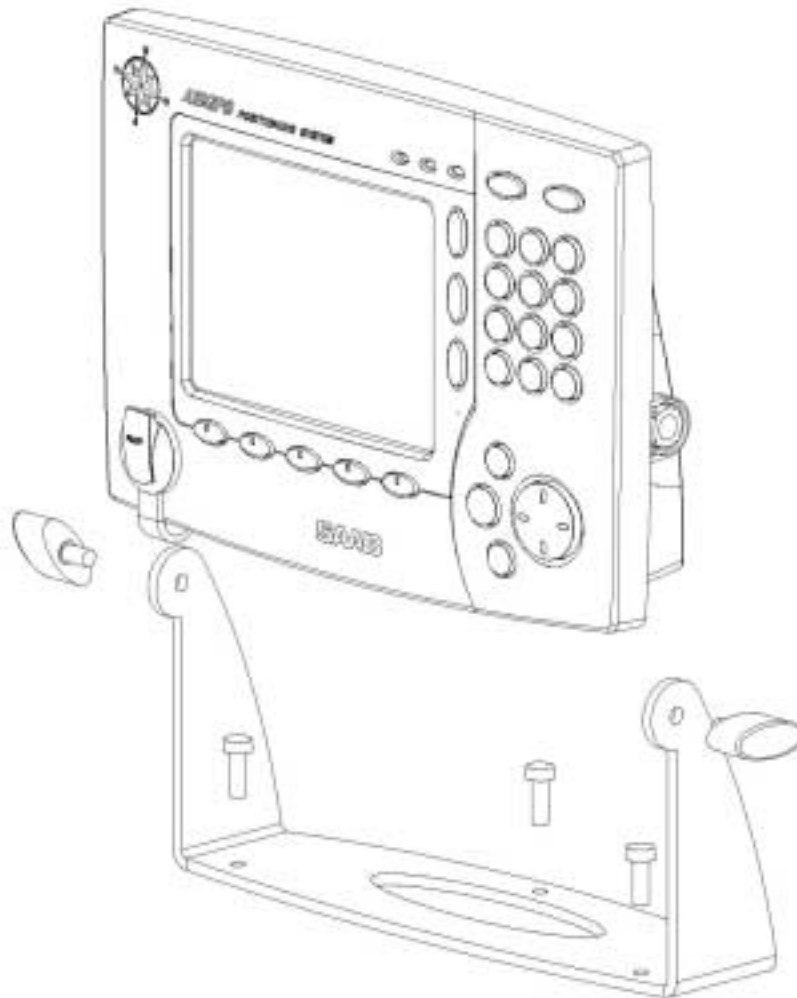

Figure 9: Bracket mount
- 2) Fasten the bracket mount with three screws on a flat surface see Figure 9. The type of screws has to be chosen considering the panel material. Note that the slots on the end of the bracket mount have to face the direction in which the R4 Display is to be mounted.